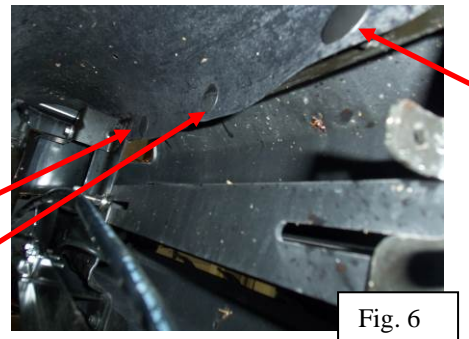

Fig. 6
7. Using a trim tool or screwdriver, remove the three plastic clips holding the rubber air deflector to the bumper (Fig. 6).